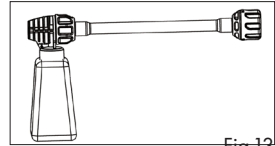

Fig.13
- When using detergent, attach the high pressure foam sprayer (Fig.13) directly onto the end of the extension lance until it "clicks" and turn to lock in place.